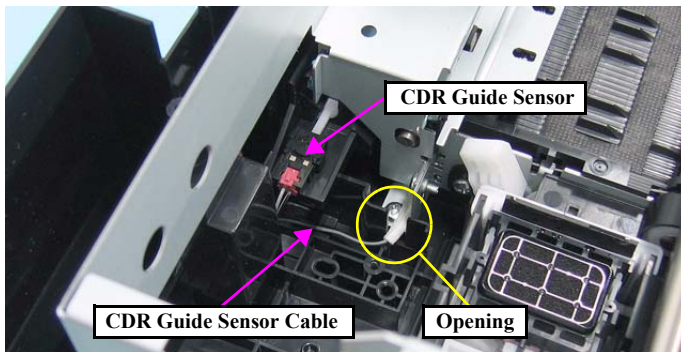

Figure 1-45. Removing the Printer Mechanism (2)
- Route the CDR Guide Sensor Cable through the opening as shown in Fig.1-45.